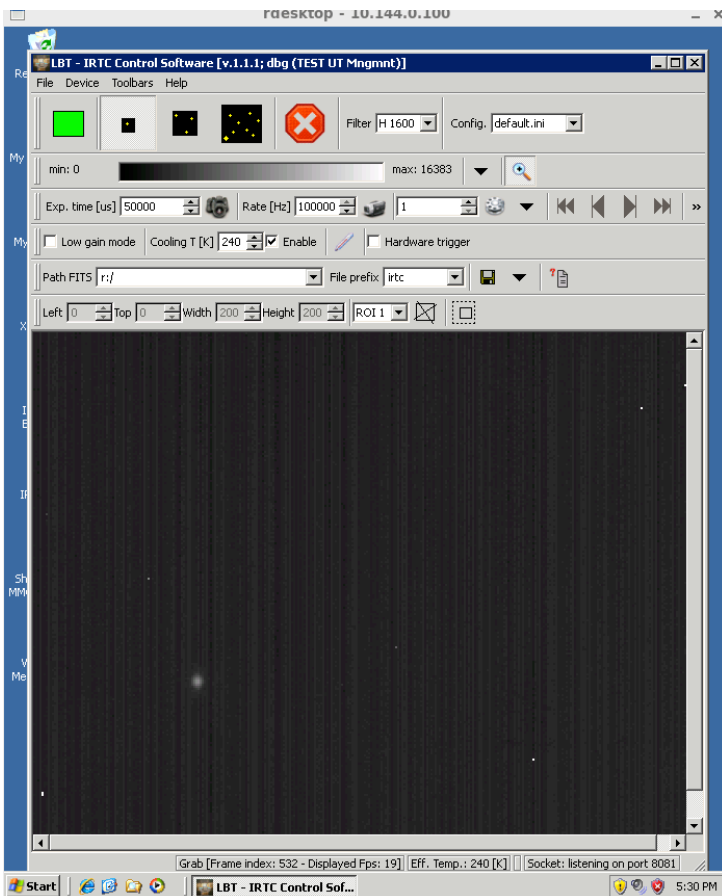

Figure 8 A well-focused PSF in closed-loop (H band, 3x2" FoV)
5. Accept the results	The intensity vs Z position plot is shown. The procedure is guessing what the best Z-stage position is by looking for the maximum in the plot. A window pops up asking to accept the found position: accept it. If in the plot you don't see a clear maximum, it is a safe approach to iterate the procedure from point 4. IRTC image should look like the one in Figure 8